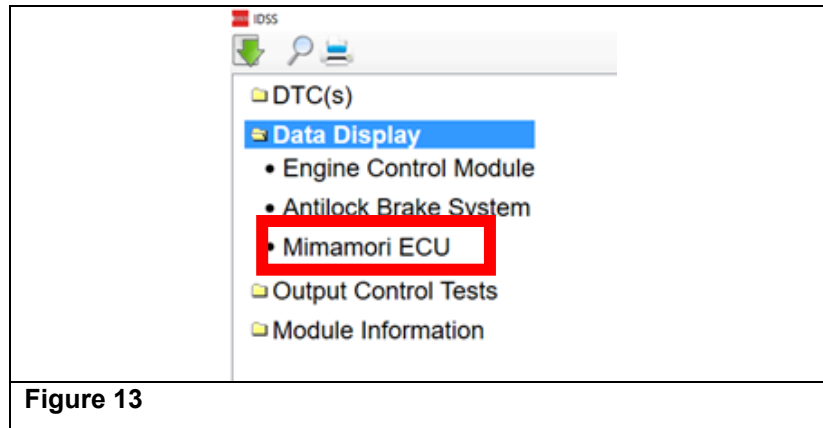

Figure 13
18. Navigate to “Data Display” and “Mimamori ECU”. (See Figure 13.)